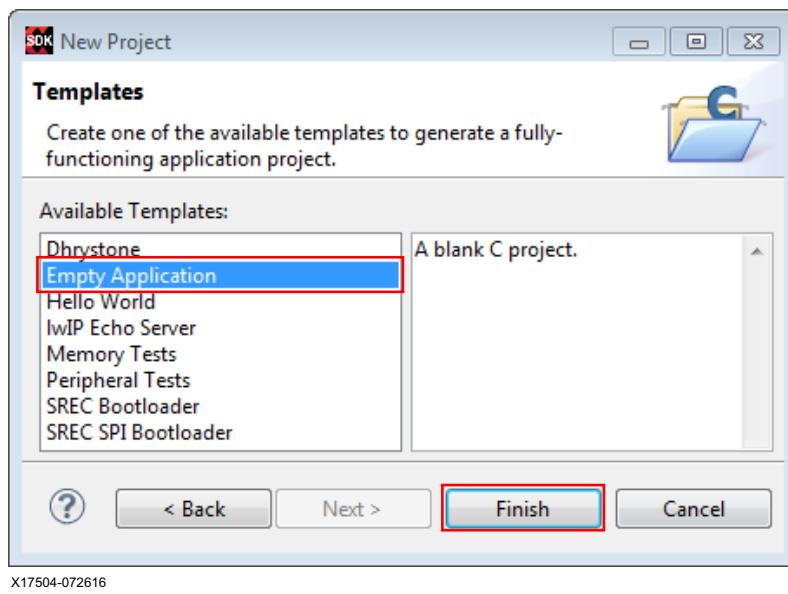

Figure 8: Available Templates
- e. Under Available Templates select **Empty Application** (Figure 8).